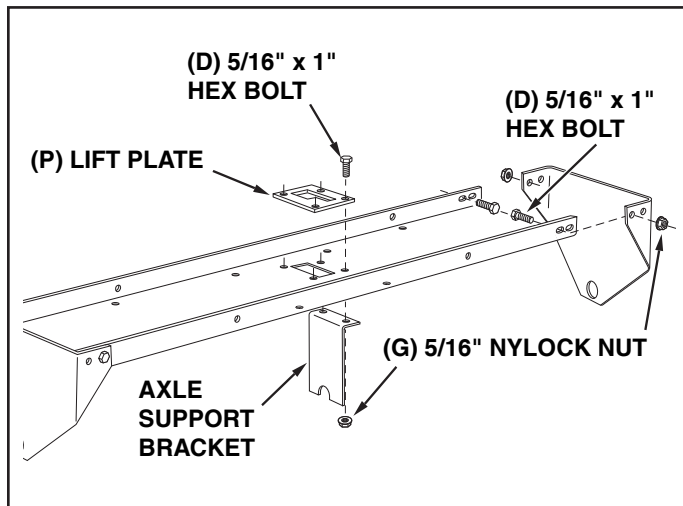

FIGURE 1 FRONT VIEW
1. Assemble the end plates to the **inside** slots at each end of the tray using two 5/16" x 1" hex bolts (D) and 5/16" nylock nuts (G) per end plate. **Do not tighten yet.** See figure 1.
2. Assemble the lift plate (P) and the axle support bracket to the tray using four 5/16" x 1" hex bolts (D) and 5/16" nylock nuts (G). **Do not tighten yet.** See figure 1.
13. Square up the axle support bracket with the tray. **Tighten** the four bolts and nuts assembled in figure 1 that fasten the axle support bracket and lift plate to the center of the tray.